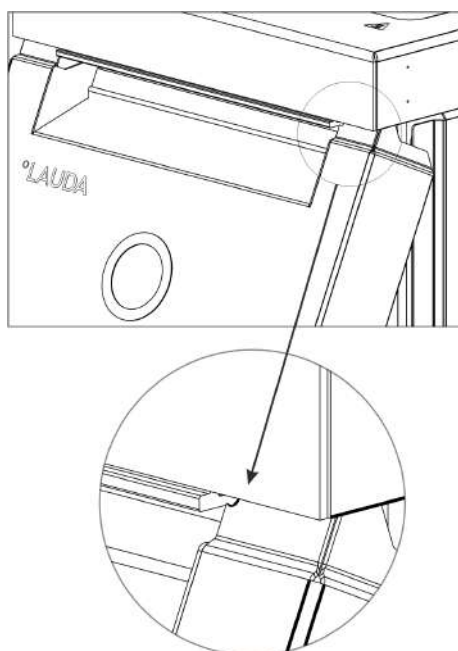

Fig. 72: Curves on the front panel
2. Push the front panel upward but make sure that the curves are still visible Fig. 72.